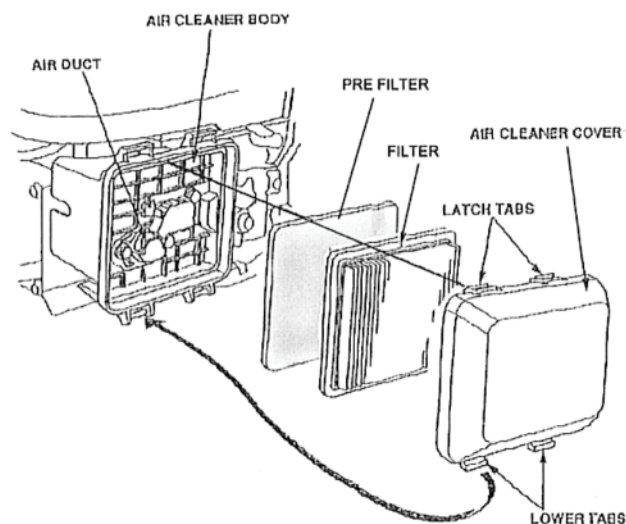

Figure 16
3. Press the latch tabs on the top of the air filter cover and remove the cover. (Fig. 16)